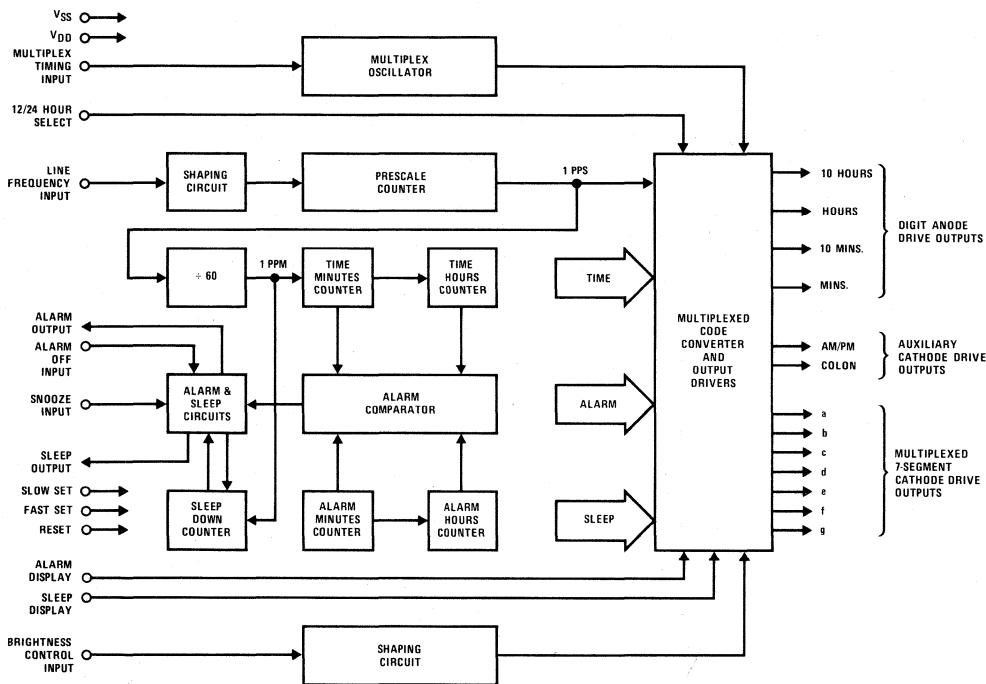
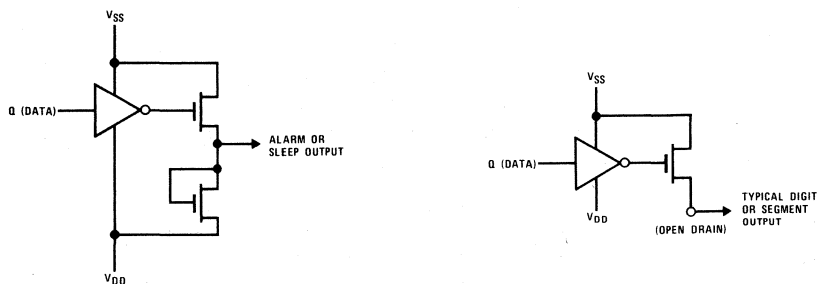
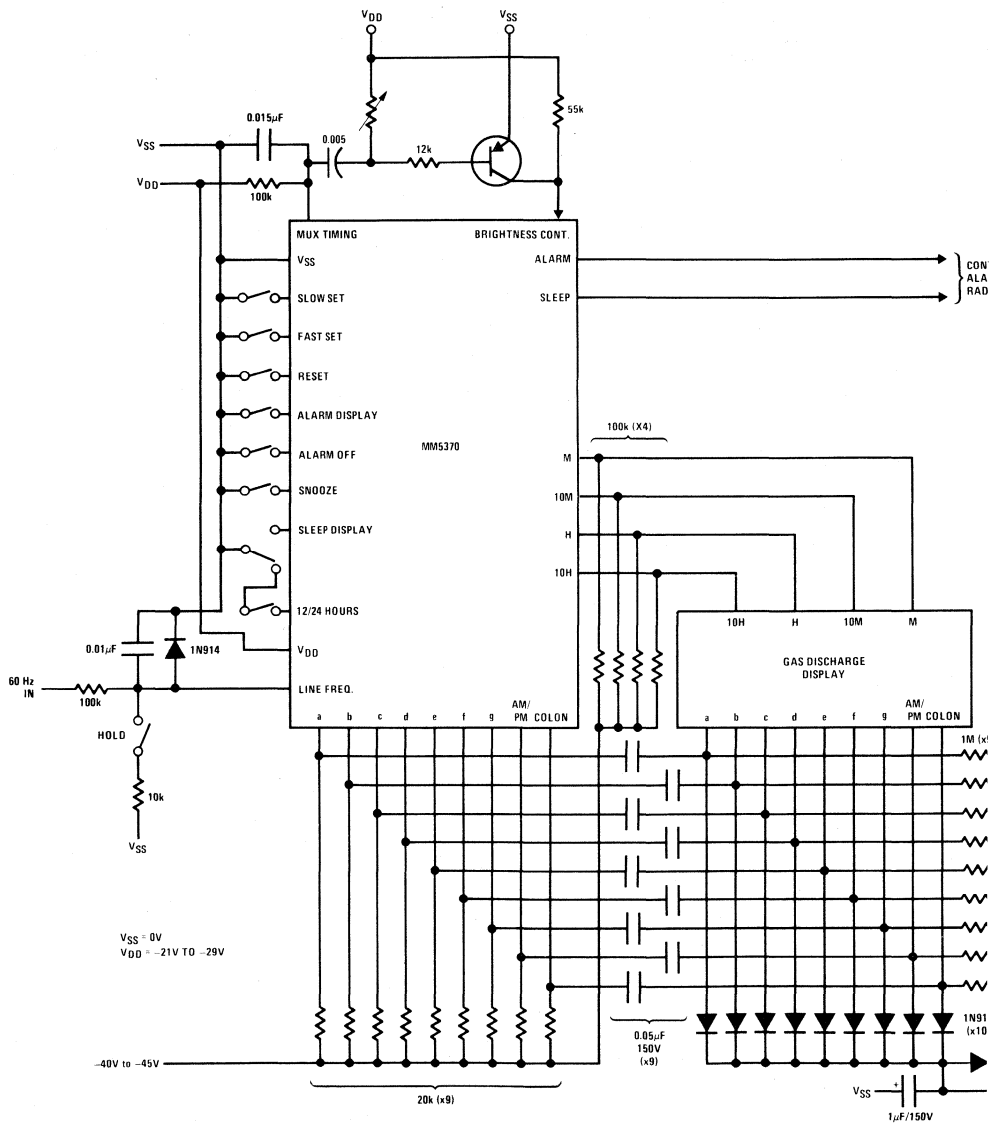

FIGURE 1. MM5370 and MM5371 Digital Alarm Clock, Block Diagram
FIGURE 7. Output Circuits
FIGURE 8. Recommended Application
A block diagram of the MM5370 and MM5371 clocks is shown in *Figure 1*. The various display modes provided by these clocks are listed in Table I. The functions of the controls are listed in Table II. A connection diagram for these devices is shown on page 1. Unless indicated otherwise, the following discussions are based on *Figure 1*.
Line Frequency Input (pin 12): A shaping circuit is provided to square the 60 Hz (MM5370) or 50 Hz (MM5371) input. This circuit allows use of a sinewave input. The Schmitt Trigger shaper (*Figure 2*) is designed to provide approximately 6V of hysteresis. A simple RC filter, such as shown in *Figure 8*, should be used to remove possible line-voltage transients that could cause the clock to gain time or damage the device. The shaper output drives a counter chain which performs the time-keeping function. A prescale counter divides the line input frequency to obtain a 1 pps timebase.
Display Mode Select Inputs (pins 7 and 8): In the absence of either of these inputs, the display drivers output time-of-day information to the display. Internal pull-down (to V_{DD}) depletion loads allow use of simple SPST switches for connecting these inputs to V_{SS} , thereby selecting alternate display modes. If more than one mode is simultaneously selected, the priorities are as noted in Table I. As shown in *Figure 1* the multiplexed code converter receives time, alarm and sleep information from appropriate points in the clock circuitry. The display mode select inputs control the gating of the desired data to the multiplexed code converter inputs and ultimately (via output drivers) to the display.
Time Setting Inputs (pins 10 and 11): Both fast and slow setting inputs are provided. These inputs are applied either singly or in combination to obtain the control functions listed in Table II. Again, internal pull-down depletion loads are provided; application of V_{SS} to these pins effects the control functions. Note that the control functions proper are determined by the selected display mode. An optional hold-time control function can be obtained as shown in *Figure 8*.
12 or 24-Hour Select Input (pin 13): By leaving this pin unconnected, the clock is programmed to provide a 12-hour display format. This format provides for zero-blanking the most significant display digit (ten's of hours). An internal pull-down depletion load is again provided; connecting this pin to V_{SS} programs the 24-hour display format. (See *Figure 8*).
When driving gas discharge displays which enclose more than one digit in a common gas envelope, it is necessary to either (1) inhibit the segment drive voltage(s) for a short time during inter-digit transitions, or (2) avoid physically adjacent inter-digit transitions. The MM5370 and MM5371 clocks utilize an interlaced output sequence to eliminate the need for inter-digit blanking circuitry and to prevent display arcing problems. The digit sequence is: (1) digit no. 1 (ten's of hours), (2) digit no. 3 (ten's of minutes), (3) blank for one digit time, (4) digit no. 2 (unit hours), (5) digit no. 4 (unit minutes), (6) blank for one digit time, etc. The two blanking intervals are provided to recharge level-translating capacitors located in the display segment drive lines (see *Figure 8*). Both segment data and digit enables are blanked. *Figure 3* is a timing diagram which illustrates output timing.
Output Circuits: All display output drivers are open-drain devices with sources common to V_{SS} (pin 5), see *Figure 7*. *Figure 8* illustrates interfacing the clock outputs and a gas discharge display.
Brightness Control Input (pin 15): Since display brightness is a function of cathode segment current, a capability of interrupting this current for a variable percentage of the digit interval results in a brightness control. Connecting this Schmitt Trigger input (see *Figure 2*) to V_{DD} places all cathode segment drive voltages at the high level, thereby inhibiting the display. Conversely, V_{SS} applied to this input enables the cathode segment drives. The Schmitt Trigger shaper provides approximately 1V of hysteresis, which facilitates using a waveform such as a sawtooth with a variable slope (or variable dc component) to effect the shaper output duty cycle and, therefore, the display brightness. The control waveform should be derived from the multiplex frequency; a circuit is included in *Figure 8*.
Alarm Operation and Output (pin 2): An alarm comparator (see *Figure 1*) senses coincidence between the alarm counters (the alarm setting) and the time counters (real time). The comparator output is used to set a latch in the alarm and sleep circuits. This latch enables the alarm output driver (see *Figure 7*), the output of which is used to control the external alarm sound generator. The alarm latch remains set for 59 minutes, during which the alarm will sound if the latch output is not
sleep display mode (see Table I) and setting the desired time interval (see Table II). This automatically results in a current-source output via pin 4 which can be used to turn on a radio. When the sleep counter, which counts downwards, reaches 00 minutes a latch is reset and the sleep output drive current is removed, thereby turning off the radio. This turn off also may be manually controlled (at any time in the count-down) by a momentary V_{SS} connection to the snooze input (pin 1). This input is also returned to V_{DD} by a depletion load. The output circuitry is the same as the alarm output (see Figure 7).